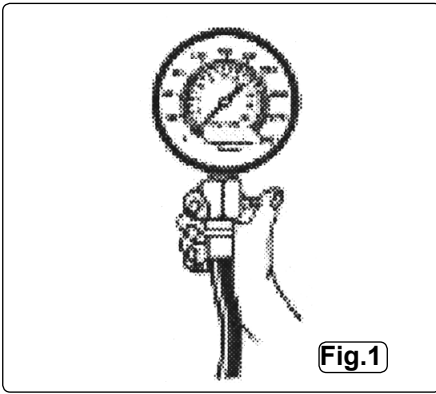

Fig.1
- ❑ **WARNING!** Always release the pressure via the Release Valve **before** disconnecting the tester. Press the release valve slowly to release the pressure gradually. Refer to Fig.1.